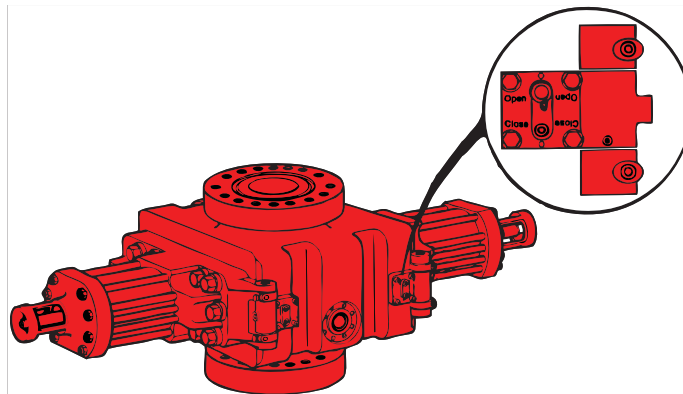

Figure 3-6. Opening and Closing Hydraulic Ports
5. Connect the hydraulic lines from the BOP closing unit to the “Open” and “Close” ports of the BOP. Make sure all connections are clean and tight. Each set of rams requires one opening and one closing line (see Figure 3-6 and Figure 3-7).
Two opening and two closing hydraulic ports are clearly marked on the back (hinge) side of the BOP (see Figure 3-6). The extra hydraulic ports are provided to facilitate hydraulic hookup, and only one opening port and one closing port are to be used.